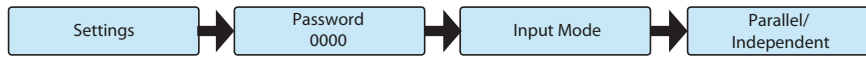

Figure 11
- For inverter FW version earlier than C.2.0.0, switch S1 located on the inverter connection board, is used to select parallel (PAR) or independent (IND) input mode. For inverter FW version C.2.0.0 or later, the input mode is set from the settings menu as shown in Figure 11.
- Confirm that the input mode is set to IND (using switch S1 on units with FW version earlier than C.2.0.0; for units with FW version C.2.0.0 and later, the input mode is set using the LCD menu, described in Figure 11).
- Confirm that the input mode is set to PAR (using switch S1 on units with FW version earlier than C.2.0.0; for units with FW C.2.0.0 and later, the input mode is set using the LCD menu, described in Figure 11).